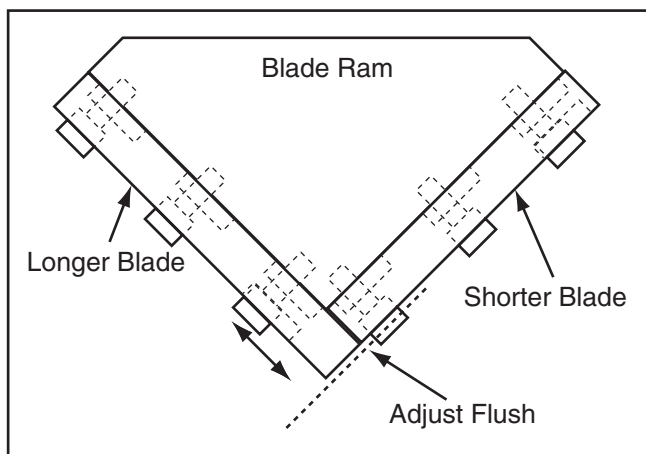

Figure 12. Aligning blades.
2. Adjust the position of the longer blade so that its end is perfectly flush with the face of the shorter blade, then tighten the cap screws (**Figure 12**).